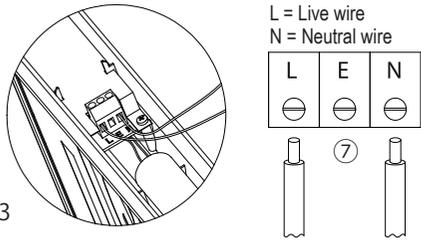

Fig. 3
Fig. 3: Prepare the de-energized supply line according to the legal guidelines. Put the cable through the mounting bracket and connect the cables according to the marking ⑦.